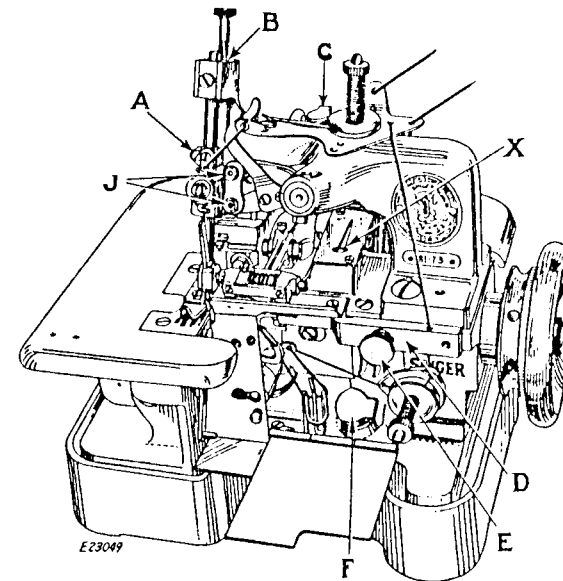
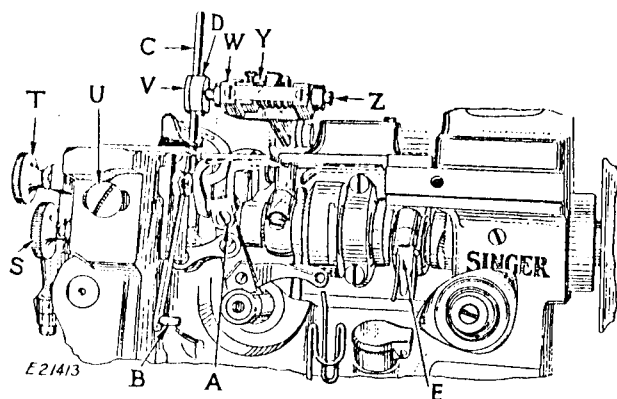

Fig. 43
Fig. 46
To assemble the lower end of the connecting rod to the rotary shaft, turn the machine so that you are working from its front, insert the guide (A, Fig. 21), into the recess in the top of the replacement bushing, place the bushing on the rotary shaft with the GROOVED END OF THE BUSHING TOWARD THE MACHINE PULLEY, move the connecting rod down and over the bushing so that the guide in the recess of the bushing also fits into the slot cut out for it in the connecting rod bearing, place the other half of the bushing in the cap, with the grooved end of the bushing toward the machine pulley and the groove on the cap match with the groove on the connecting rod, place these parts in position on the shaft, insert the screws and tighten them securely after placing the right hand looper thread controller under the head of the nearest screw, as shown at (E, Fig. 46).
Turn the machine pulley over from you until the needle bar has risen  $\frac{3}{32}$  inch from its lowest position. The point of the left hand looper, on its loop taking stroke, should then be at the center of the needle, and the eye of the needle should be about  $\frac{1}{16}$  inch below the looper point. If the needle bar is not at the correct height, loosen the pinch screw (A, Fig. 43) and move the needle bar upward or downward as required, then securely tighten the pinch screw (A).
The left hand looper should be set in the looper carrier by means of the screw (A, Fig. 46), so that the point of the looper on its loop taking stroke passes as close as possible to the needle without striking it. The point of the right hand looper or spreader should pass at the recess back of the left hand looper eye as close as possible without touching it.
The lower knife (B, Fig. 46) should always be fastened in position when removing or replacing the upper knife. The lower knife is adjustable to the right or left and its position governs the position of the upper one, also the width of bight on the goods.
To remove the lower knife (B, Fig. 46), loosen the thumb screw (T, Fig. 46) and draw the knife out downwardly.
To replace the lower knife, have the presser foot and feed down, press the upper knife holder (V, Fig. 46) toward the balance wheel, and push the lower knife upwardly so as to touch the presser foot without lifting it, then tighten the thumb screw (T, Fig. 46).
To adjust the trimmer sidewise, loosen the thumb screw (E, Fig. 43) and move the extension bracket (D, Fig. 43) to the right or away from the upper knife; loosen the screw (U, Fig. 46) and turn the thumb screw (S, Fig. 46) inwardly or outwardly until the trimmer is in the desired position, then securely tighten the screw (U, Fig. 46). Move the extension bracket (D, Fig. 43) back toward the upper knife, leaving just enough clearance between the upper knife and the bracket so as to allow free movement of the upper knife, then tighten the thumb screw (E, Fig. 43).
To remove the upper knife (C, Fig. 46), loosen the screw (Z, Fig. 46) at the end of the knife holder, press the knife holder (V, Fig. 46) toward the machine pulley and remove the knife.
When replacing the upper knife, have the knife holder in its lowest position and pressed toward the machine pulley, insert the knife and set it so that its cutting edge is just below the cutting edge of the lower knife, then tighten the clamping screw (Z, Fig. 46).
For a wider bight than is possible with the above instructions, remove the gib (D, Fig. 46) and replace it at the left of the upper knife. The lower knife should then be adjusted accordingly.
When the knives are in contact, the space between the guide (Y, Fig. 46) and the knife lever (W, Fig. 46) should be about  $1/32$  inch.